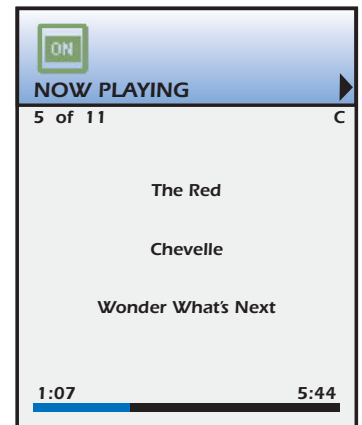

Figure 41
5. Repeat steps 3-4 until the **Now Playing Screen** appears. (Refer to **Figure 41**)